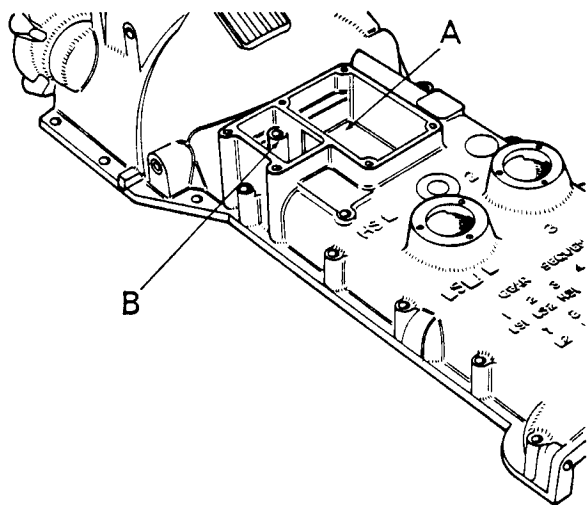

Figure 35.
3. Remove gearbox cover — 17 bolts into main frame, five bolts into rear axle. Note that one of the main frame bolts is inside the steering box oil bath. (Fig. 35.)